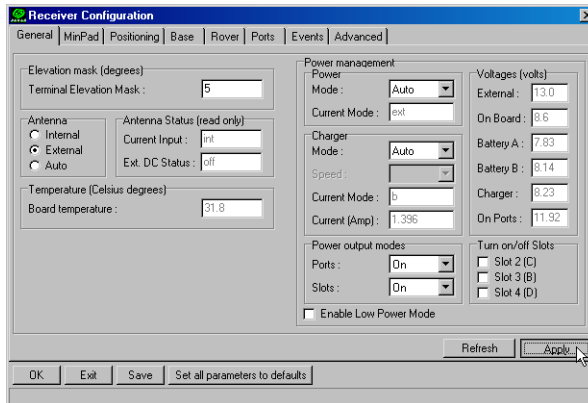

Figure 3-4. Select External Antenna Option
4. On the General tab, select the External Antenna option (Figure 3-4).